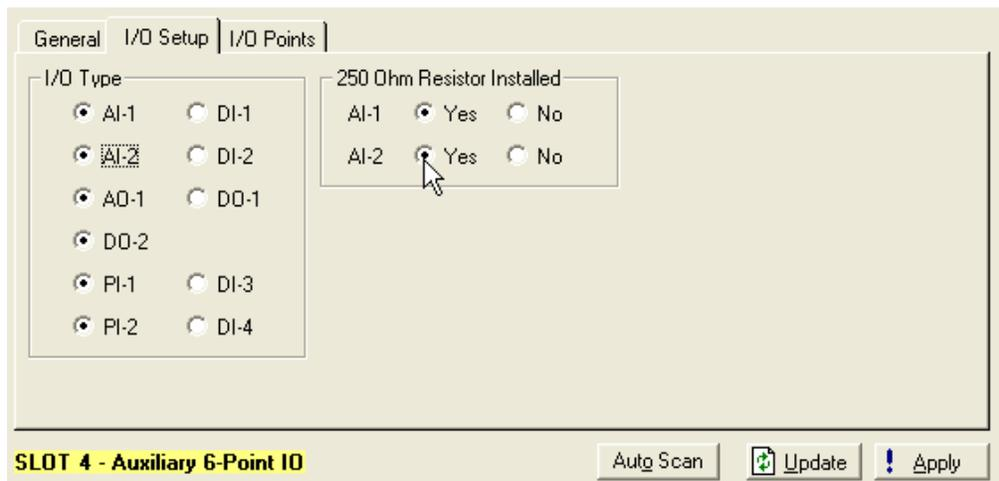

Figure 4-5. I/O Setup
Note: *Figure 4-5* shows the default values for an I/O module.
- Select AI as the I/O Type for the selectable analog input/discrete input when you configure it for use as an analog input. Refer to *Figure 4-5*.
Note: Select AO as the I/O Type for the selectable analog output/discrete output when you configure it for use as an analog output. Refer to *Figure 4-5*.
Note: Select DI as the I/O Type for the selectable pulse inputs/discrete inputs when you configure it for use as a discrete input. Refer to *Figure 4-5*.
- Select DO as the I/O Type for the selectable analog output/discrete output when you configure it for use as a discrete output. Refer to *Figure 4-5*.